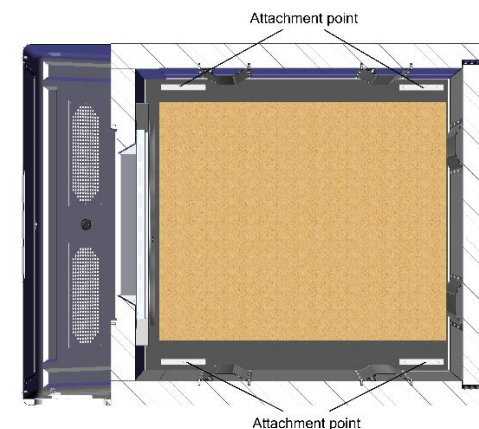

Figure 17 - US pallet centered inside the container - top view
- Ensure the load is centered inside the container (**Figure 17**);